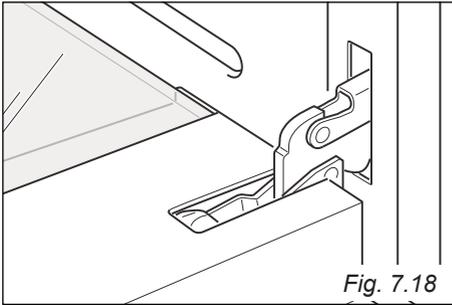

Fig. 7.18
- Open the door to the full extent (fig. 7.18).